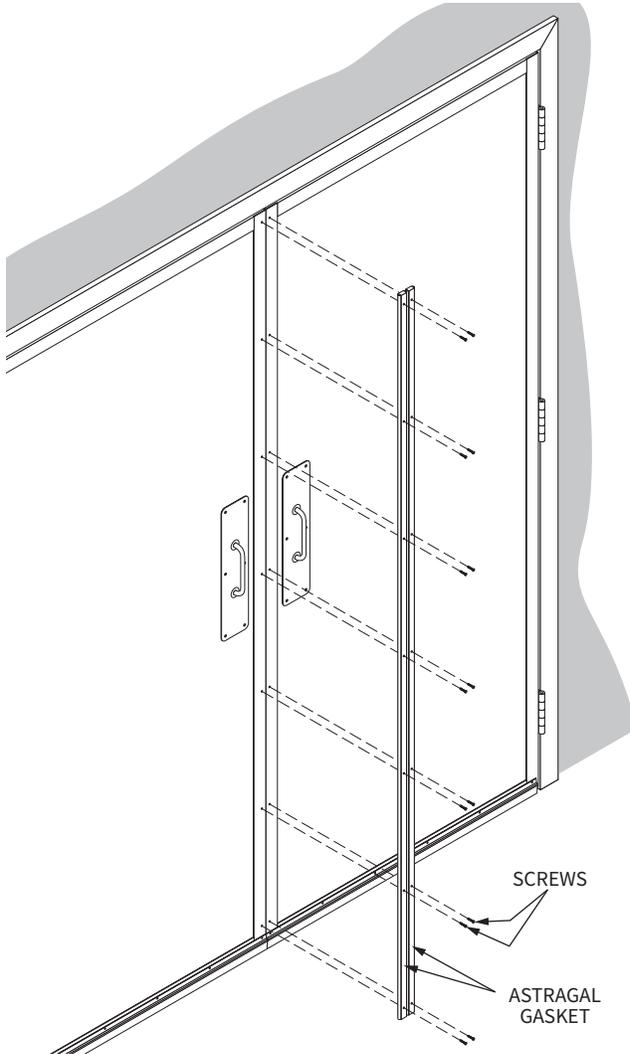

Figure 24: Astragal Gasket Installation
4. Astragal Gasket: (Figure 24)
- a. Position gaskets on pull side of panel such that the (2) gaskets just touch in the center of the gap between the panels, the full height of the panels.